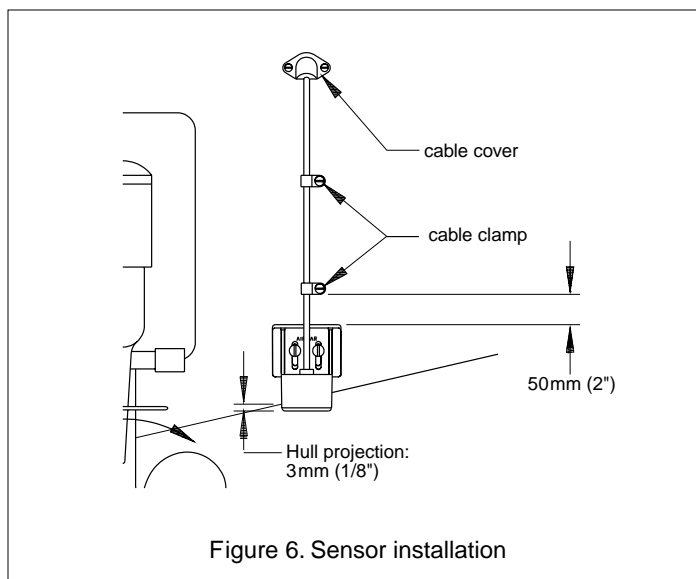

Figure 6. Sensor installation
2. Using the vertical adjustment space on the bracket slots, slide the sensor up or down to provide a projection of 3mm (1/8"). Tighten the screws (see Figure 6).
3. On the outside of the hull secure the cable against the transom using the cable clamps. Position a cable clamp 50mm (2") above the bracket and mark the mounting hole with a pencil (see Figure 6).